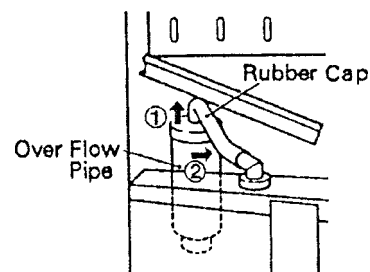

Fig. 4
- 3) Drain the Water Tank by removing the Insulation Panel and the Rubber Cap covering the Overflow Pipe in the Water Tank. Remove the Overflow Pipe by turning it counterclockwise. See Fig. 4.
5) Drain the Water Tank by removing the Rubber Cap covering the Overflow Pipe in the Water Tank. Remove the Overflow Pipe by turning it counterclockwise. See Fig. 4.